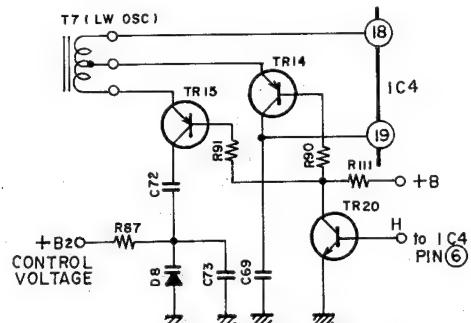

Fig. 6-8 LW OSC
- For LW, the pin (6) of IC4 is at "H" level and the reverse operation to Paragraph 1 is conducted. This means T7, C69, C72, C73 and D8 are connected to create the LW OSC state (refer to Fig. 6-8).